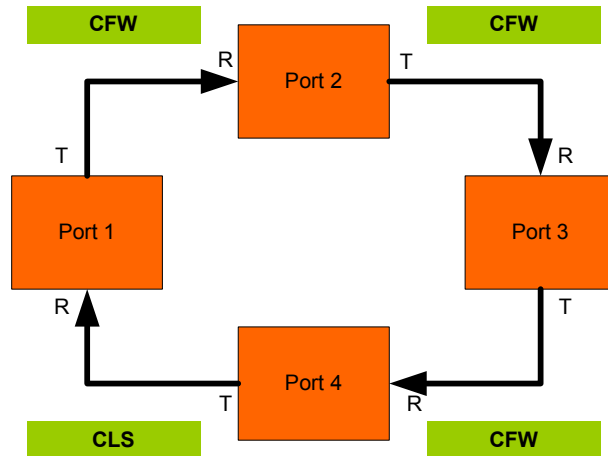

Figure 36 Close loop: Step 3
Step 3. When Port 3 receives the Close it enters the received close state, finishes its frame transmission and sends a CLS of its own (Figure 36). Port 3 also enters the monitoring state. When Port 1 receives the close it can enter the monitoring state or open a loop circuit with another port.